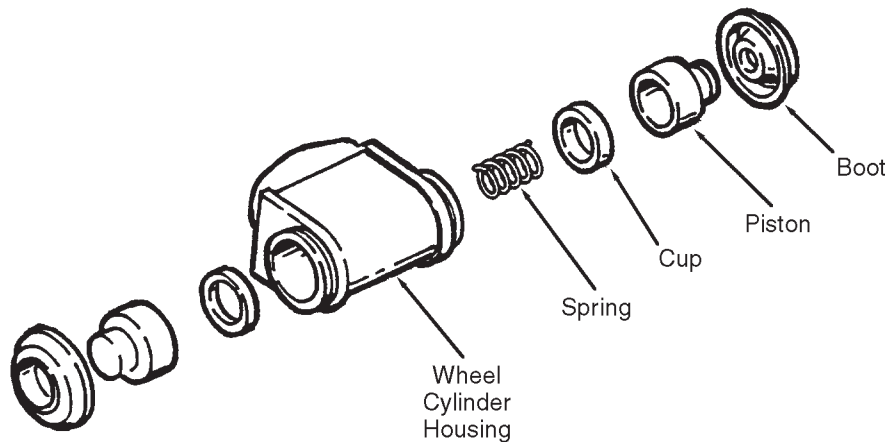

Figure 5D-5. Wheel Cylinder
4. For Disassembly and Reassembly refer to Figure 5D-5.